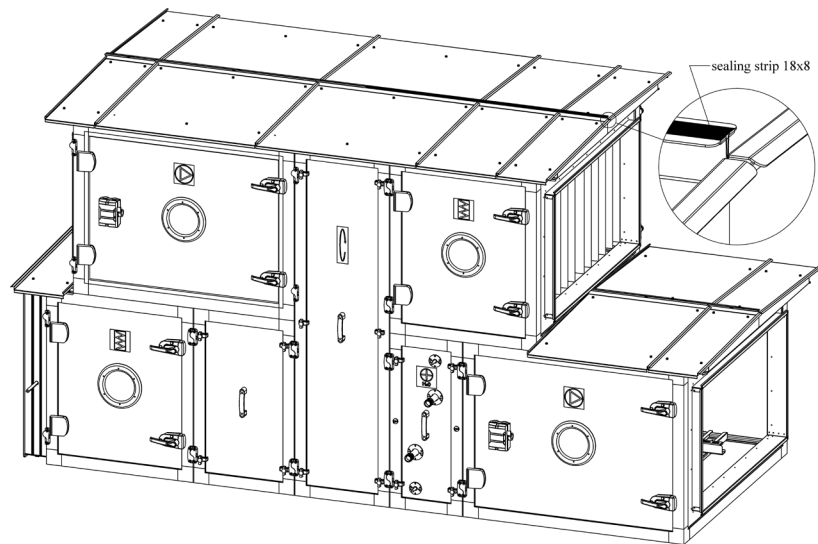

Figure 5.5
8. Apply supplied sealing strip 18x8 on segments in the middle, as shown in Figure 5.5.